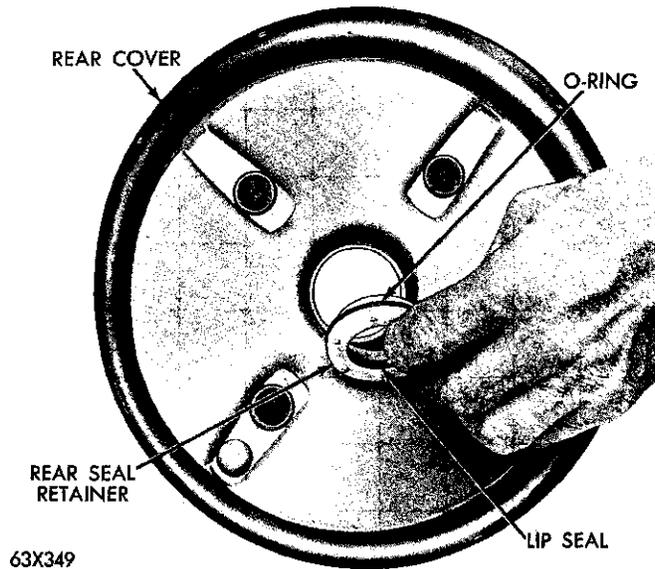

Fig. 33—Removing Rear Seal Assembly
(16) Remove the plunger from the valve body.
(17) Remove the rear seal retainer from the plunger.
(18) Using a small screw driver remove the rear seal from the rear seal retainer. Remove the "O" ring from the outer diameter of the seal retainer (Fig. 33).